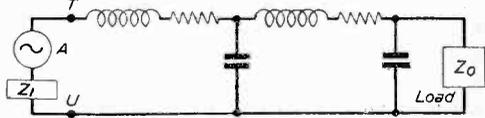

Fig. 8.—Diagram illustrating the effect of the impedance on the load.
Fig. 8 shows the scheme where we have an A.C. generator (A) with its internal impedance ( $Z_i$ ), feeding into a line which is terminated with its characteristic impedance ( $Z_o$ ). Under these conditions, maximum power will be transferred from the generator into the load.